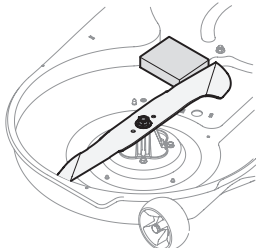

Figure 35
- Place a block of wood between the center deck housing baffle and the cutting blade to act as a stabilizer. See Figure 35.
- Remove the hex flange nut that secures the blade to the spindle assembly. See Figure 35.
- Place a block of wood between the deck housing baffle and the cutting blade to act as a stabilizer. See Figure 35.